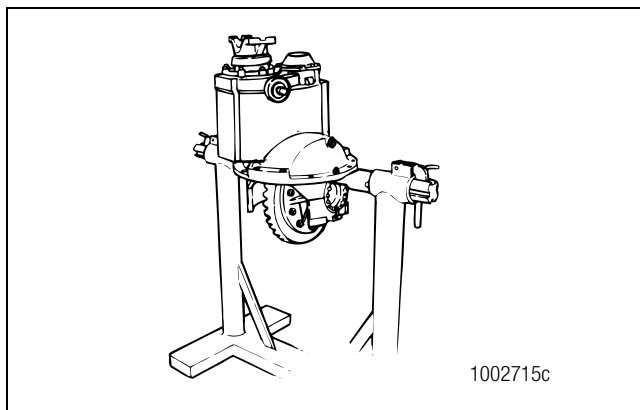

Figure 3.10
8. Use a lifting tool to lift the differential carrier by the input yoke or flange and place the assembly in a repair stand. Do not lift by hand. Refer to Section 10 to make a carrier repair stand. Figure 3.10.